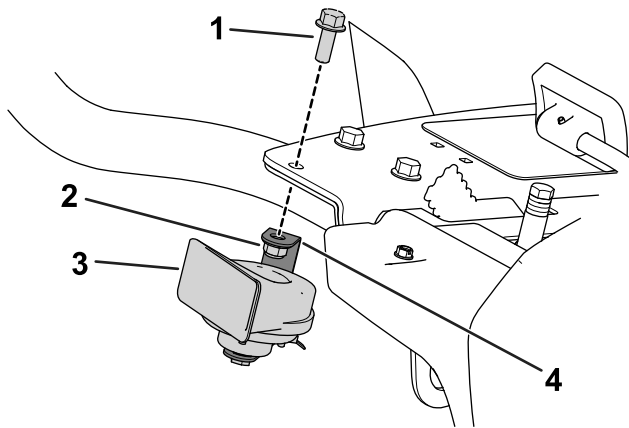

Figure 9
2. Use a hex-head bolt (3/8 x 1 inch) and a flange nut (3/8 inch) to secure the horn and horn bracket to the right floor bracket (Figure 9).